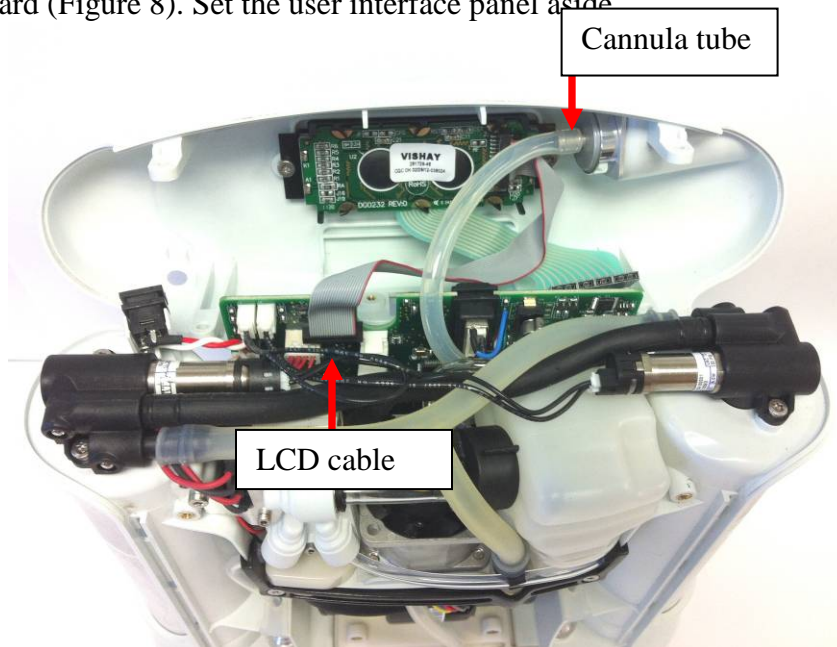

Figure 8: Remove cannula tube and power cable
8. Gently unplug the cannula tube from the user interface panel and the LCD cable from the motherboard (Figure 8). Set the user interface panel aside